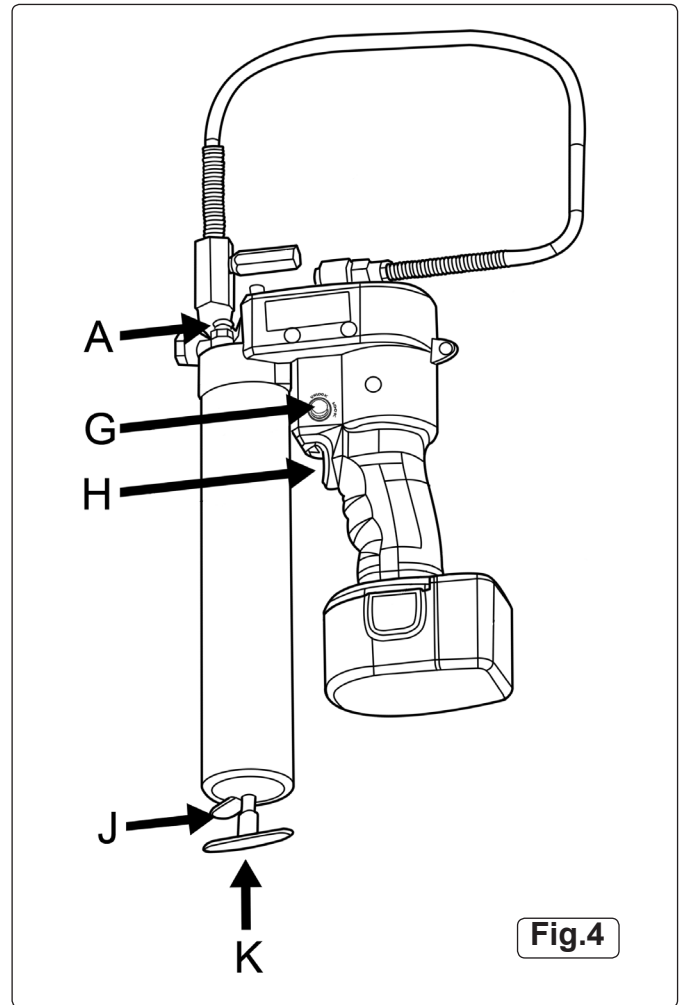

Fig.4
- 3.9.2 Hold down the catch plate and exert force on the plunger (Fig 4.K), whilst pressing the vent valve (Fig 4.A).
- 3.9.3 Operate the trigger (Fig 4.H) in short, sharp bursts until grease begins to flow from the connector at the end of the flexible tube.